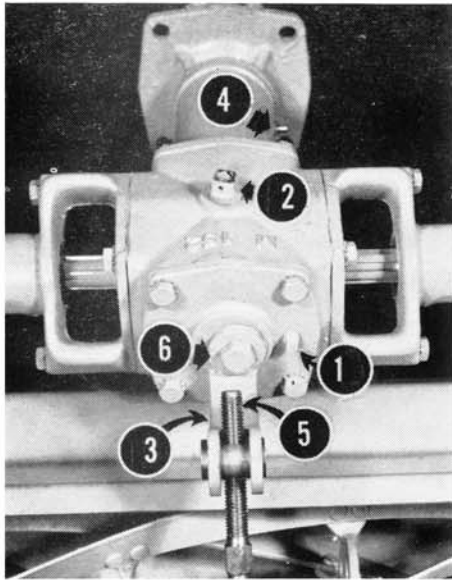
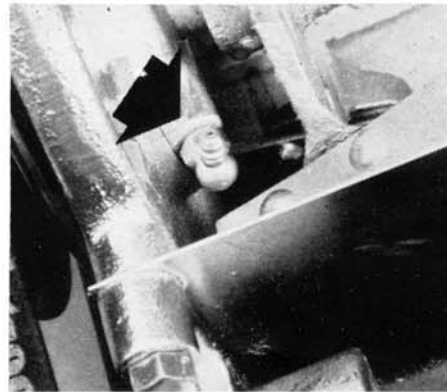

Figure 18
Figure 19
Check the Gear Housing oil level every four hours of operation by removing the Oil Level Plug, 1 in Figure 18. If oil runs out, the oil level is all right; if not, oil must be added.
To add oil, remove the Oil Filler Plug, 2 in Figure 18, and pour through the Oil Filler Hole until oil begins to run out the Oil Level Hole (too much oil will cause over-heating and consequent gear damage). Replace both Plugs before resuming mowing.
Change oil in the Gear Housing at least annually. To drain, remove the entire Strut Casting, 3 in Figure 18; replace after the oil has drained. Add oil as instructed above.
Use Mobilgrease MP occasionally in the grease fittings on the Swivel Casting, 4 in Figure 18, and as required in the grease fittings for the Reel Bearings, arrow in Figure 19. It is important to lubricate properly the Reel Bearings, as the grease forms a water seal around each Bearing, preventing rust. Use Mobilgrease MP as required in the grease fittings on the Roller Bar.
Turn the Height Adjusting Screw, 5 in Figure 18, clockwise to raise the cutting height; turn it counter-clockwise to lower the cutting height.
1. Loosen the bolt on the front of the Gear Housing, 6 in Figure 18.